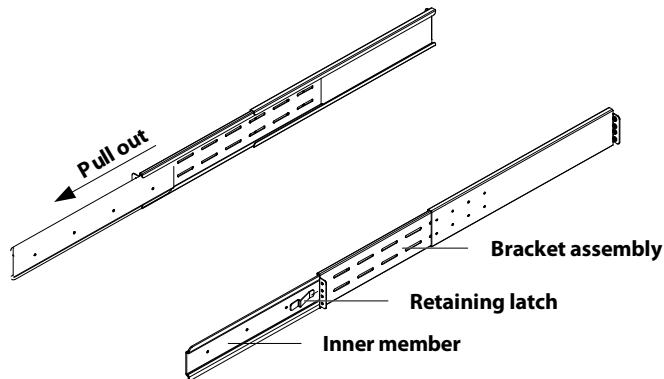

Figure 8: Pulling inner member from each bracket assembly
2. Remove inner member of each slide rail assembly by extending it to its outermost position, depressing the retaining latch and then pulling inner member from bracket assembly (see Figure 8).